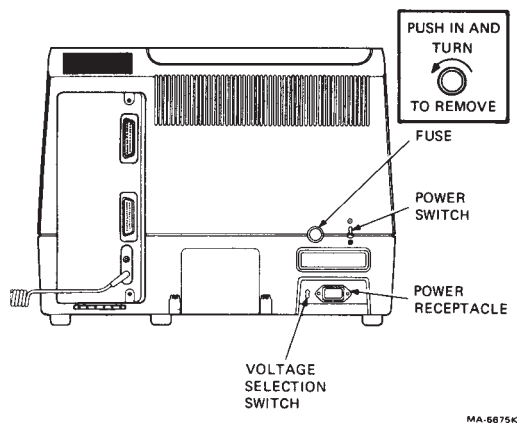

Figure 1-4 Fuse Removal
2. Unplug power cord from the wall outlet and then from the rear of the terminal (Figure 1-4).
2. Remove the fuse from rear of terminal (Figure 1-4).
If the voltage switch is not set correctly, turn the terminal power off and use a small screwdriver to set the voltage switch to the correct voltage (Figure 1-4).